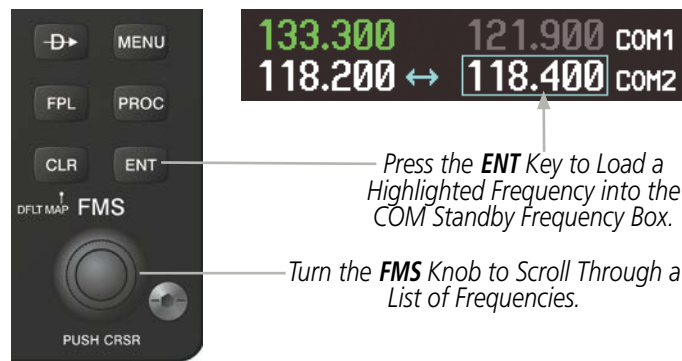

Figure 4-12 Frequency Auto-Tuning from the MFD
Frequencies can be automatically loaded into the COM Frequency Box from pages in the NRST or WPT page group by highlighting the frequency and pressing the **ENT** Key (Figures 4-12, 4-13, and 4-14).
- 2) Turn the **FMS** Knob to place the cursor on the desired COM frequency (Figure 4-12).